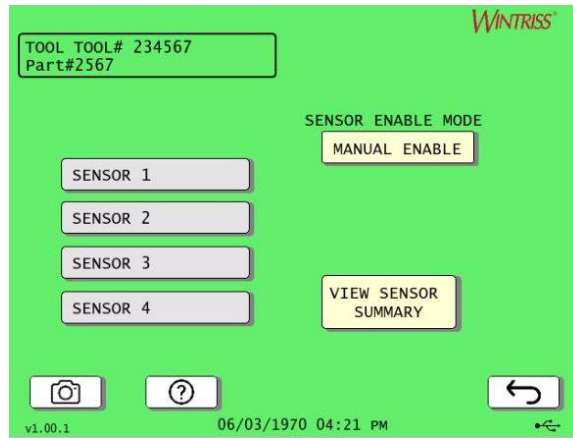
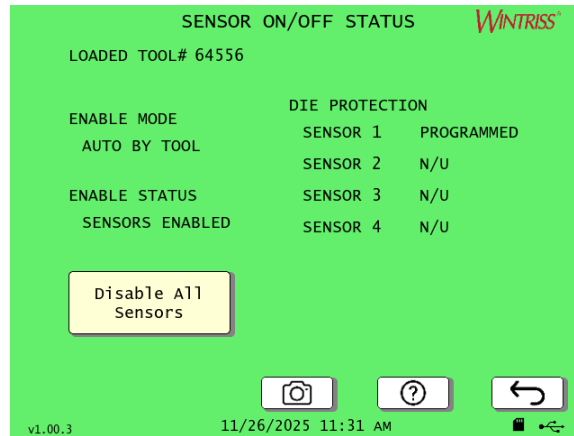

Figure 4-14. Sensor Selection Menu
Figure 4-18. Sensor ON/OFF Status Screen
Press DIE PROTECTION. The Sensor Selection menu appears, Figure 4-14.
3. Press DIE PROTECTION. The tool's sensor selection list appears, Figure 4-14, previous section.
To see which sensors are programmed and other information about them, in the sensor program menu, Figure 4-14, page 208, press VIEW SENSOR SUMMARY. The Sensor ON/OFF Status screen appears, Figure 4-18. On this screen you can enable or disable all sensors. See the next section.